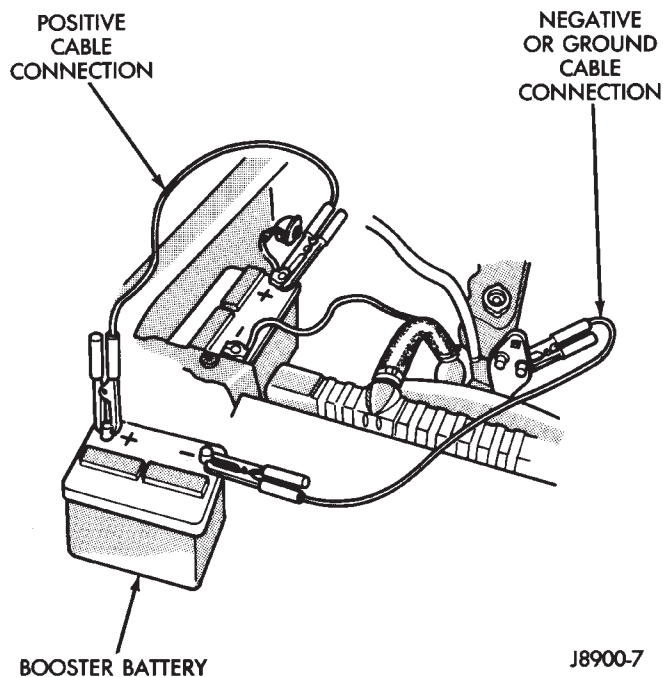

Fig. 6 Jumper Cable Connections
(4) Attach a red cable connector clamp to the positive (+) terminal on the booster battery. Connect the other red cable connector clamp to the positive (+) terminal on the discharged battery (Fig. 6).